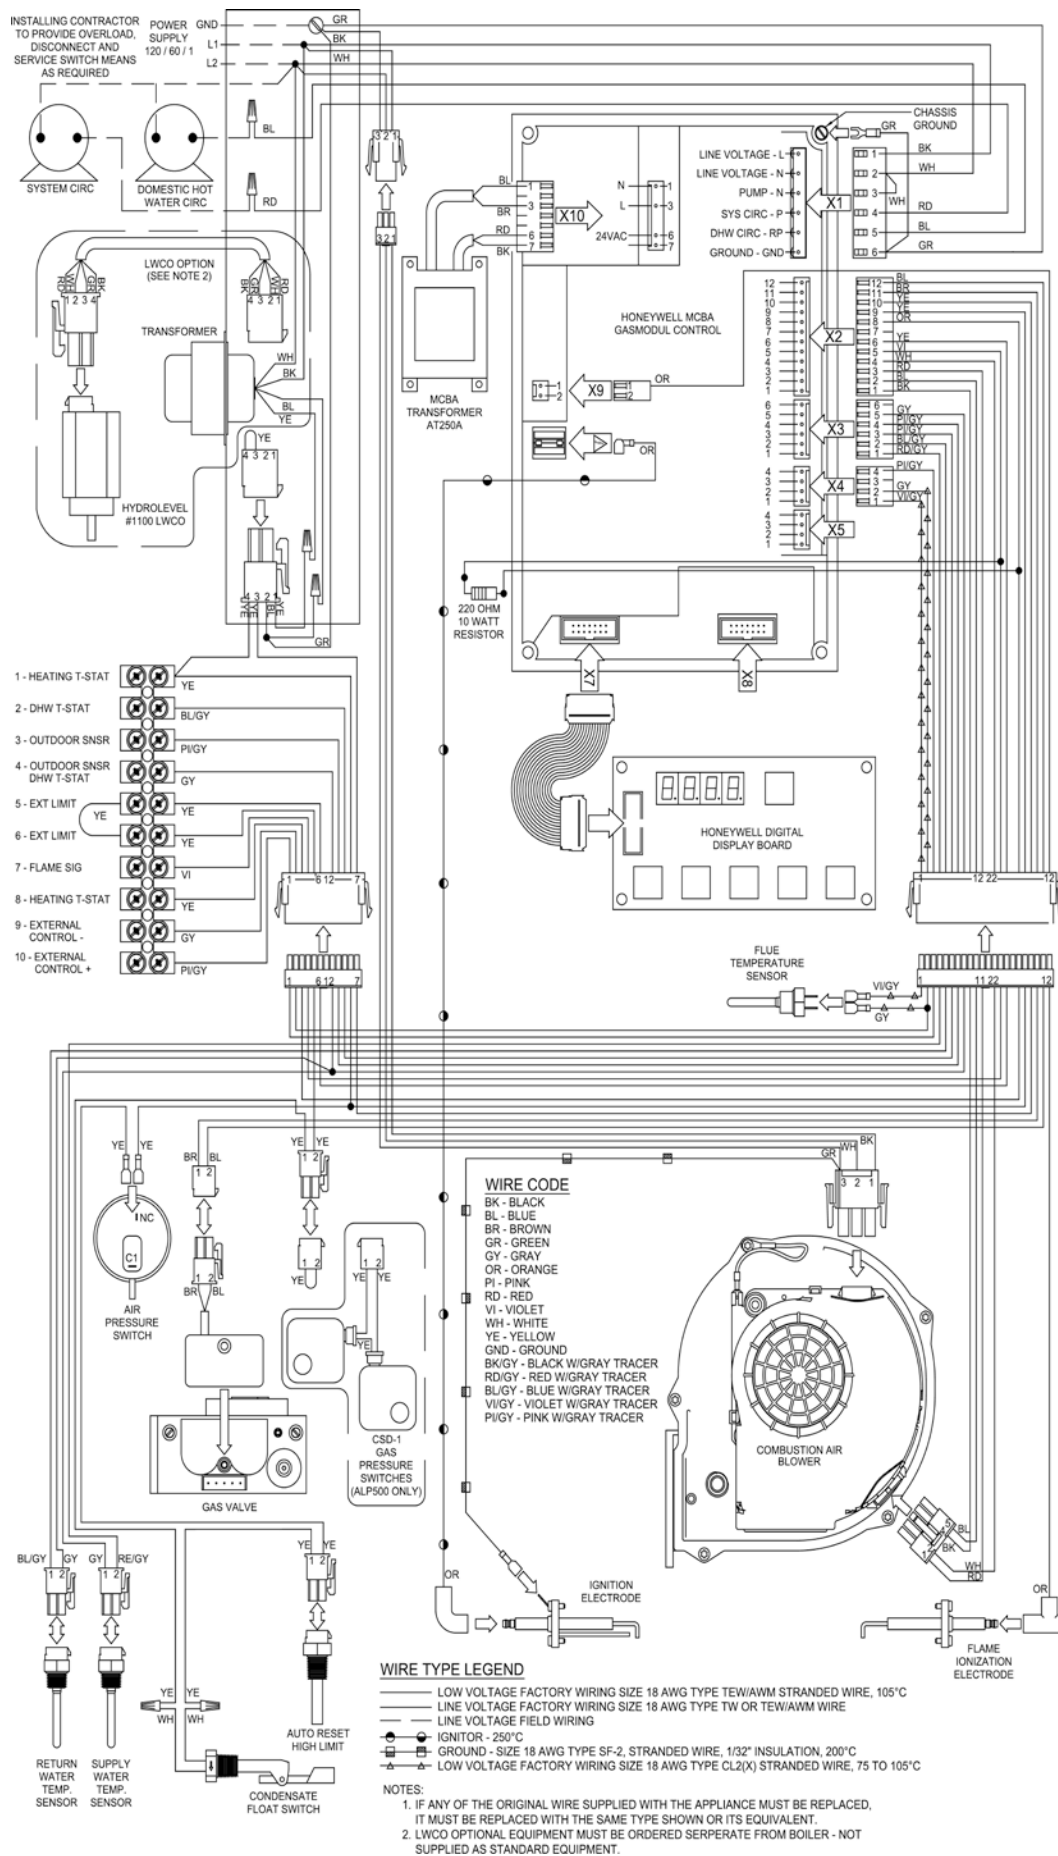

Figure 35: Wiring Connections Diagram
C. Refer to Figures 35 and 36 or details on the internal boiler wiring.
1. Line Voltage (120 VAC) Connections (Figure 35)
3. Low Voltage Connections (Figure 35) – These connections are screw terminals located on the terminal strip next to the junction box on the left: